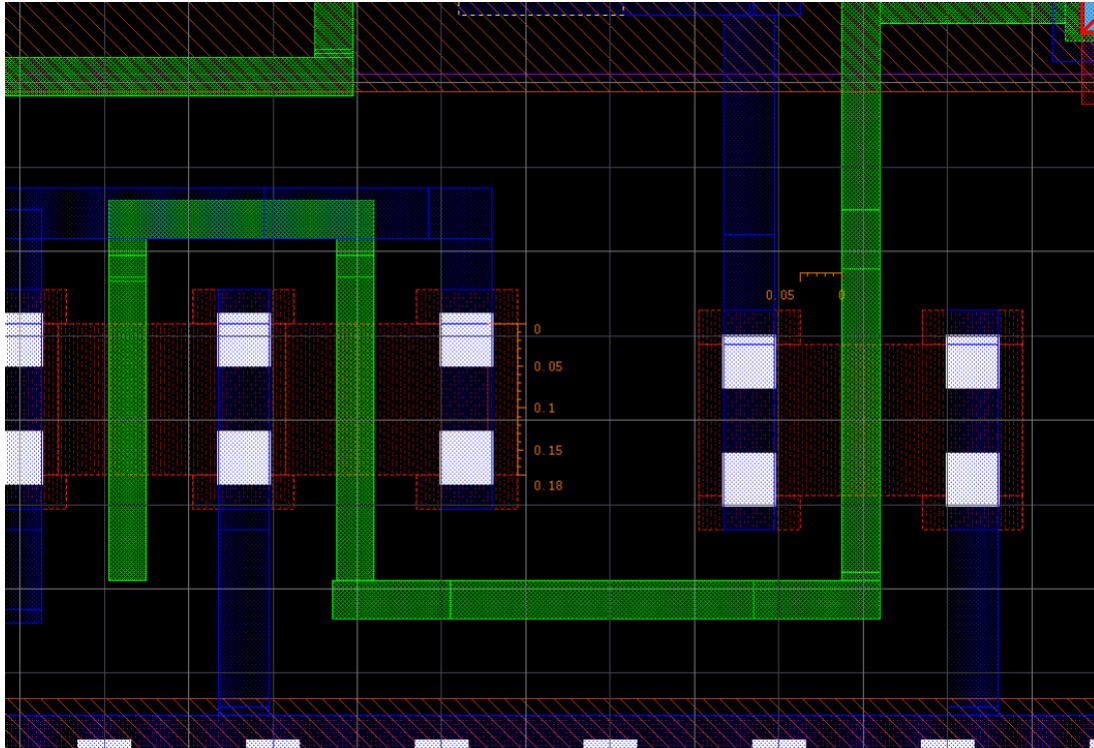

Figure 3: Diffusion Region Extensions (Hats) for Contacts
- Diffusion/active has to be top/bottom symmetrical. For example, consider the **hats** and symmetry shown in Figure 3